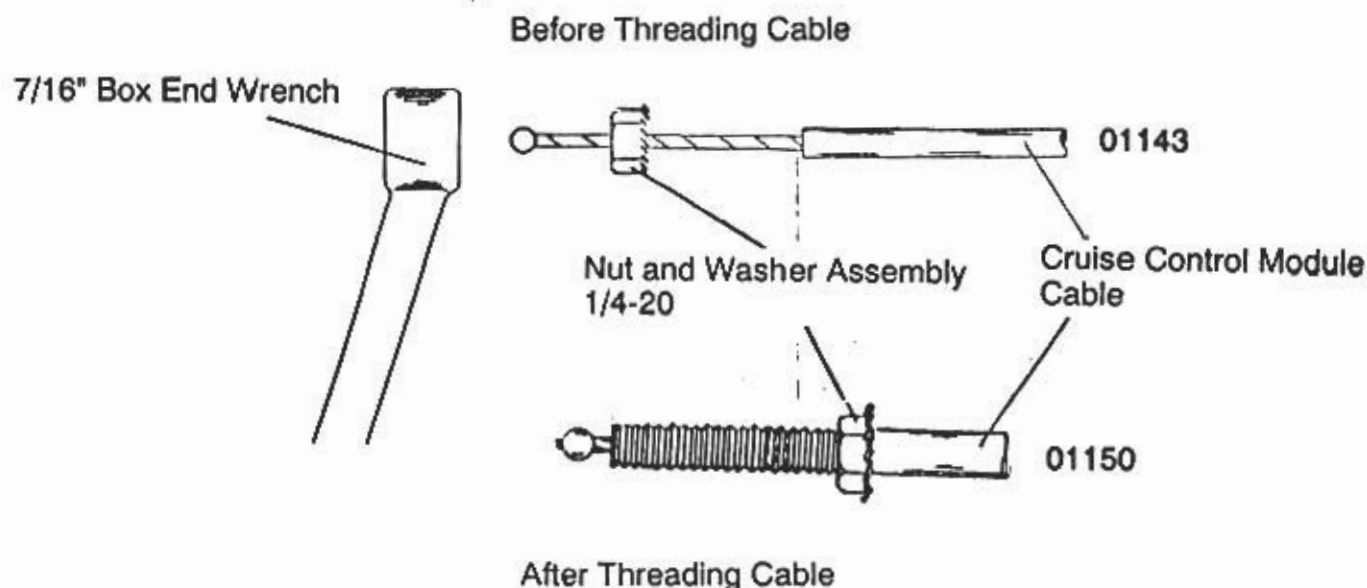

FIGURE 2
- 6) To use the **Snap-In Adaptor**, it will be necessary to form threads on the end of the **Cruise Control Module Cable**. This is accomplished by placing the **1/4"-20 Nut and Washer Assembly** on the end of the **Cruise Control Module Cable** with your fingers, then use a **7/16" box end wrench** and turn clockwise, until the desired amount of threads have been formed as shown in **Figure 2**.